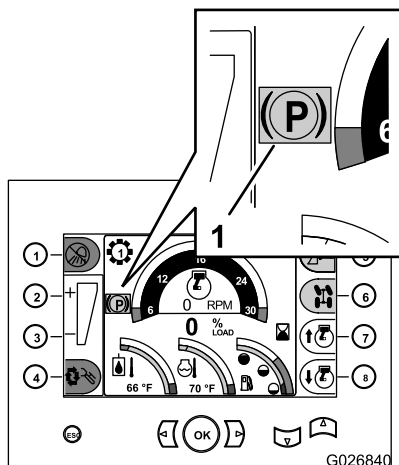

Figure 12
Note: The red parking brake indicator will appear in the command center display (Figure 12).
- If you stop the engine without setting the parking brake, the machine will set the parking brake and the yellow parking brake indicator will appear in the command center display (Figure 12).